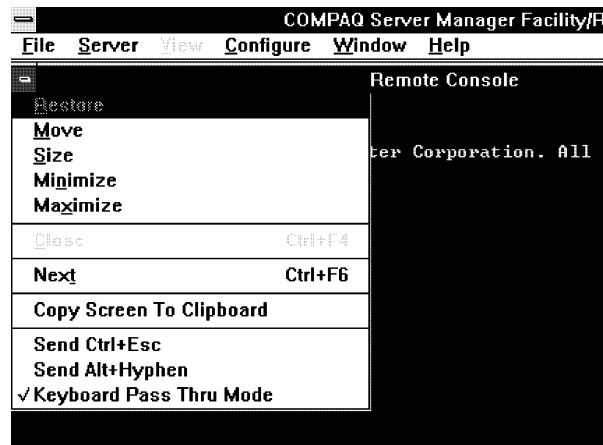

Figure 1. SM/R Console System Menu showing the Keyboard Pass-Through option.
- A:** **Alt+Hyphen** is used to display the Console System Menu. The Console System Menu has several options including Keyboard Pass-Through, which is used to send **Ctrl+Esc** and **Alt+Hyphen** keystrokes (see Figure 1 below). The **Ctrl+Esc** and the **Alt+Hyphen** keystrokes may be used on either the monitored PC and or the Management PC. The Keyboard Pass-Through option allows the user to specify which PC the keystrokes are sent to.